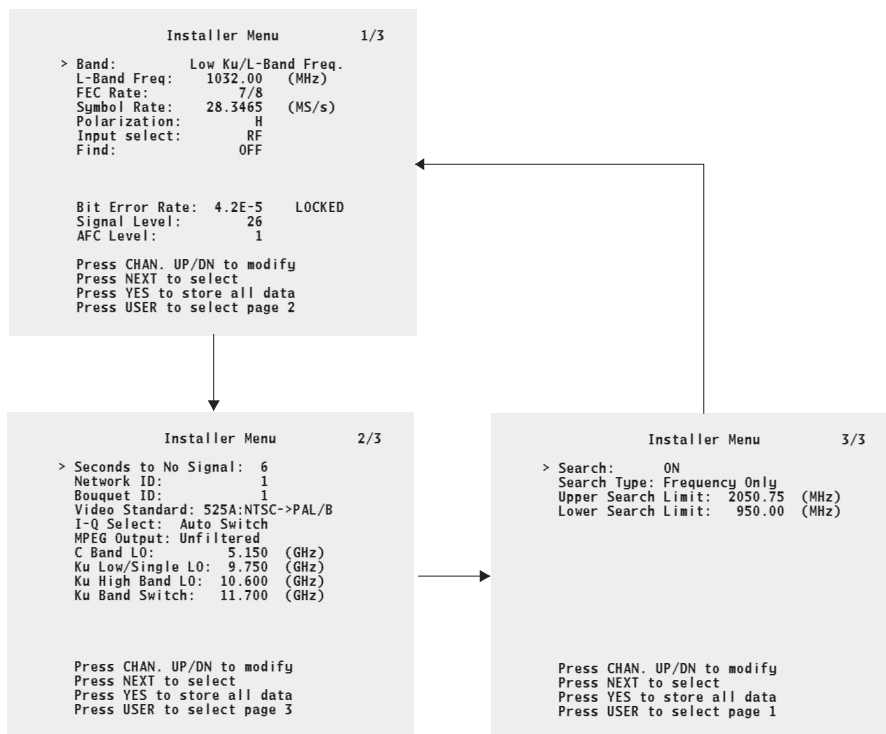

Figure 3-2. Installer menu (pages 1, 2 & 3)
- Step 1.** Press USER to display page 1 of the Installer menu, if required (see Figure 3-2).
Step 1. Press USER to display page 1 of the Installer menu, if required (see Figure 3-2).